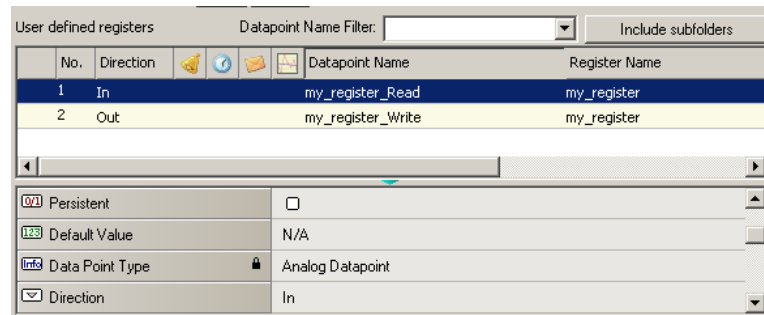

Figure 84: Manually created user register.
6. Two data points now appear for the register, one for writing the register and one for reading the register as shown in Figure 84.